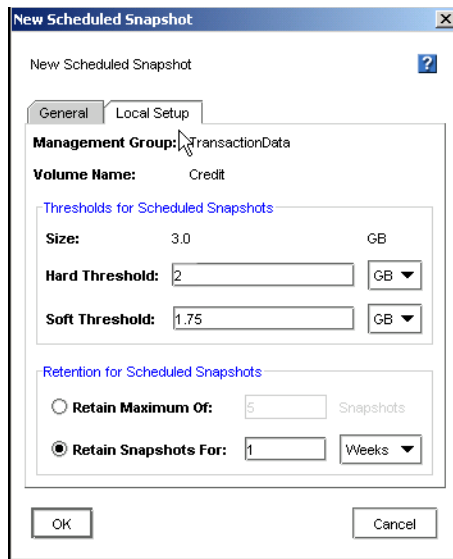

Figure 164. Creating a Scheduled Snapshot, Local Setup
- Click the Local Setup tab to bring it to the front, as shown in Figure 164.